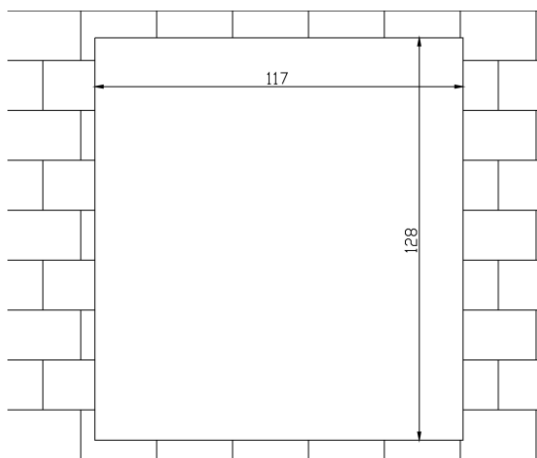

Figure 1
- Step 1. Dig a hole on wall, its dimension is 117\*128\*80(mm). See Figure 1